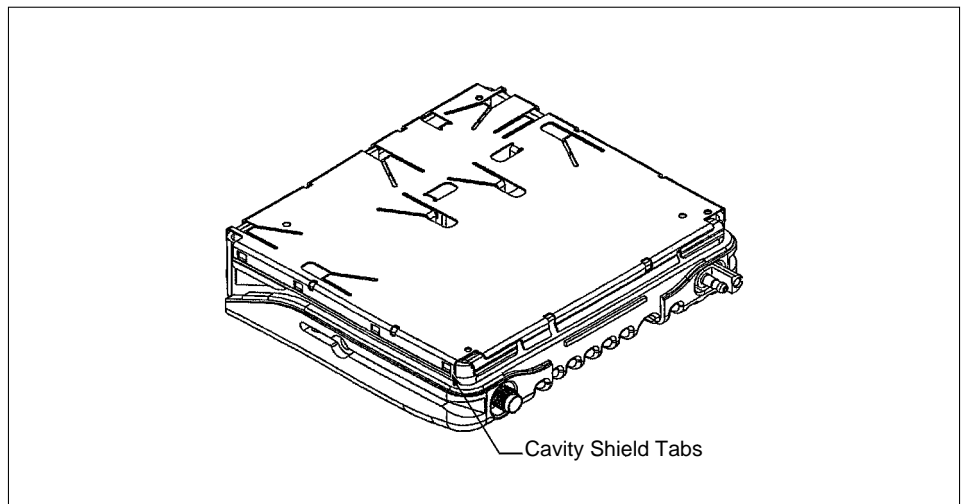

Figure 5-4 Removing the Cavity Shield
2. Loosen the cavity shield by prying each of the eight tabs away from the chassis. Release the four tabs on one side first and then repeat the operation on the other. Be careful not to pry the tabs any more than is necessary to free them from their respective retaining posts (see Figure 5-4).